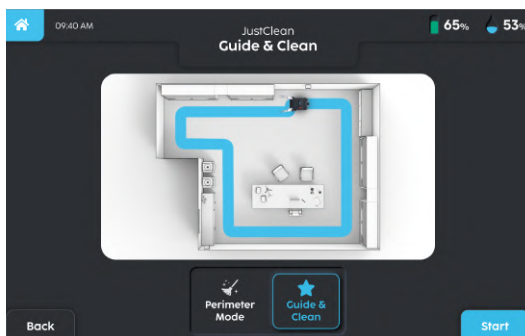

FIGURE 6-19
- b. Guide & Clean Mode - Push the machine along the path to be cleaned and it will only clean that path (**Fig. 6-19**).